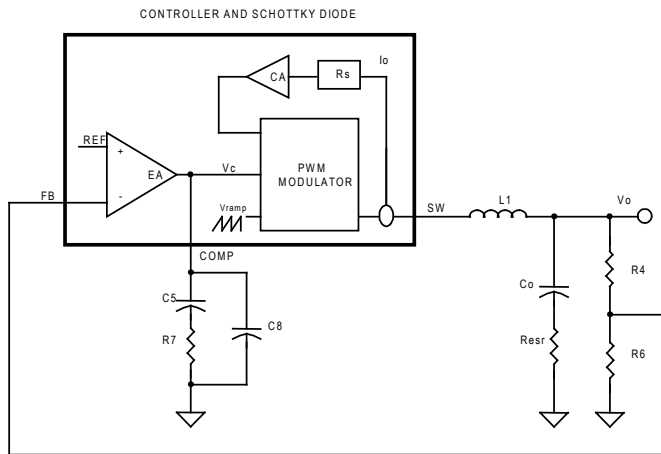

Figure 7. Block diagram of control loops
The goal of compensation is to shape the frequency response of the converter so as to achieve high DC accuracy and fast transient response while maintaining loop stability (see Figure 7).
The block diagram in Figure 7 shows the control loops of a buck converter with the SC4524C. The inner loop (current loop) consists of a current sensing resistor ($R_s=5.5\text{m}\Omega$) and a current amplifier (CA) with gain ($G_{CA}=18.5$). The outer loop (voltage loop) consists of an error amplifier (EA), a PWM modulator, and a LC filter.
For a converter with switching frequency F_{SW} , output inductance L_1 , output capacitance C_0 and loading R , the control (V_c) to output (V_o) transfer function in Figure 7 is given by: